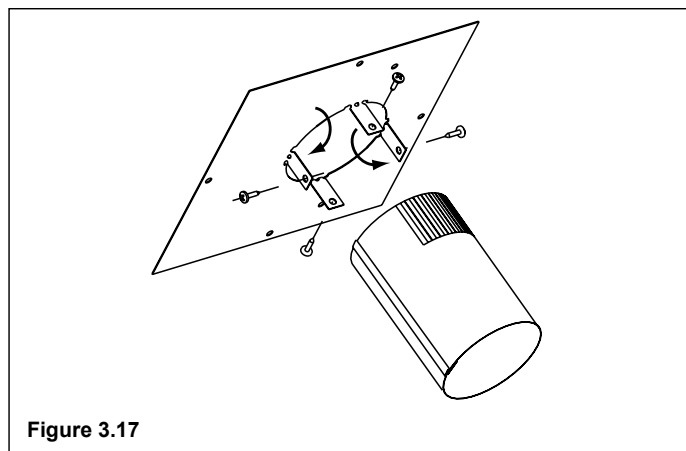

Figure 3.17
- On the mounting plate, hand bend the tabs downward. Slide the tabs over the outside of the starter pipe. Secure with four sheet metal screws included in fasteners package. Figure 3.17.